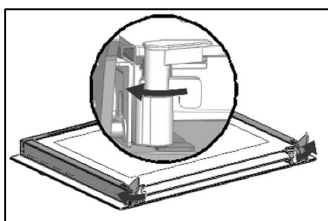

Figure 15
- Flip the glass pane retainers outwards to open them (Figure 15)